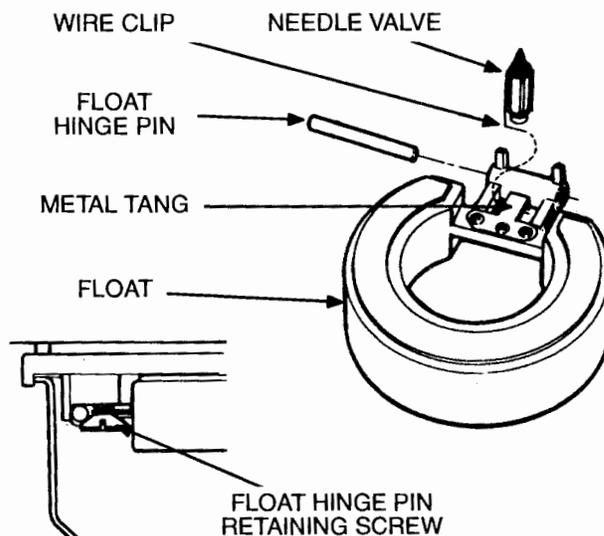

FIGURE 6-20. FLOAT INSTALLATION (GASOLINE)
1. See Figure 6-20. Turn the carburetor upside down and install the new needle valve, float, float hinge pin and fuel bowl gasket in the repair kit. Make sure the wire clip properly engages the groove around the end of the needle valve and loops around the metal tang of the float. (The clip pulls down on the needle valve when the float level drops, breaking the needle loose if it is stuck.) Check to see that the float moves freely without binding.